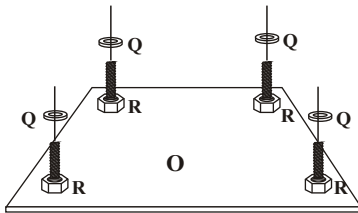

FIGURE 1A
- Slide a 16mm Thick Washer (Q) over each of the J-Bolts(N) as shown in FIGURE 1A.